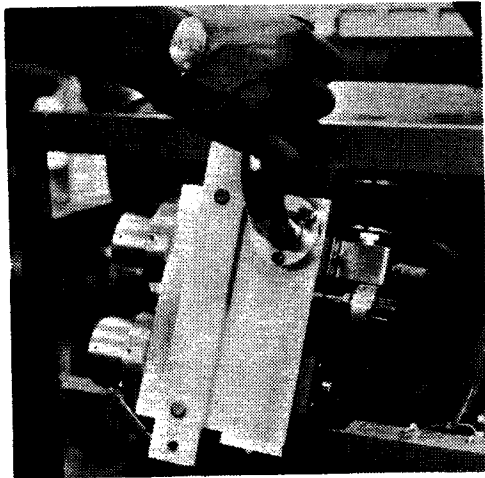

Figure 6-18. Lifting Valve Block Assembly Clear of Frame
4. Using a $7/16$ -inch wrench, remove the top and bottom bolts from the front of the valve block bracket. Lift the valve block assembly to clear the frame cross-member, then swing the bottom clear and remove (Figure 6-18).